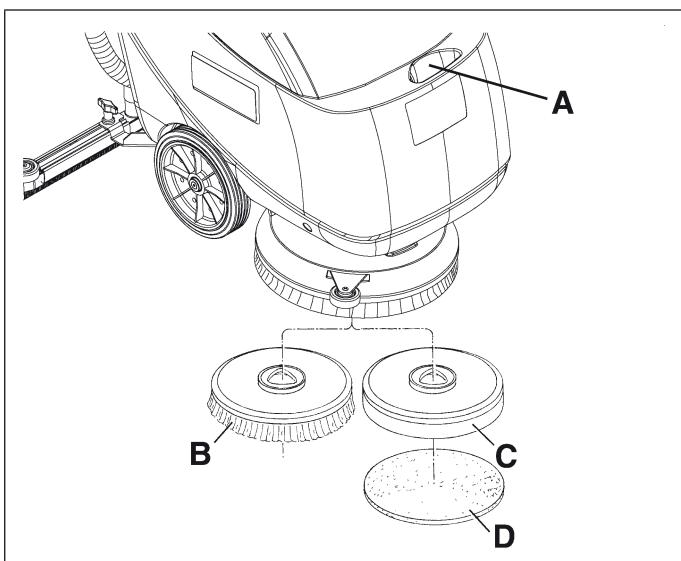

Figure 6
2. Fill the solution tank (A, Fig. 6) with a solution suitable for the work to be carried out.
According to the kind of cleaning to be carried out, the machine can be equipped both with the brush (B, Fig. 6) and the pad-holder (C) with pad (D).
5. Place the brush (B, Fig. 6) or the pad-holder (C) with pad (D) under the cover.
6. Lower the cover (G, Fig. 6) by means of the handlebar (H).